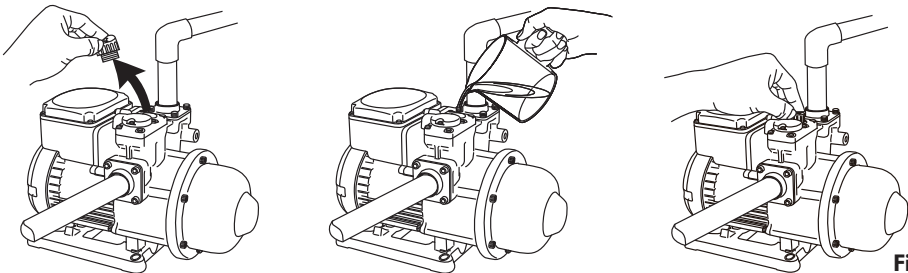

Fig. 2
1. Before starting, the pump must be primed. Please follow the procedure as shown in Fig 2.